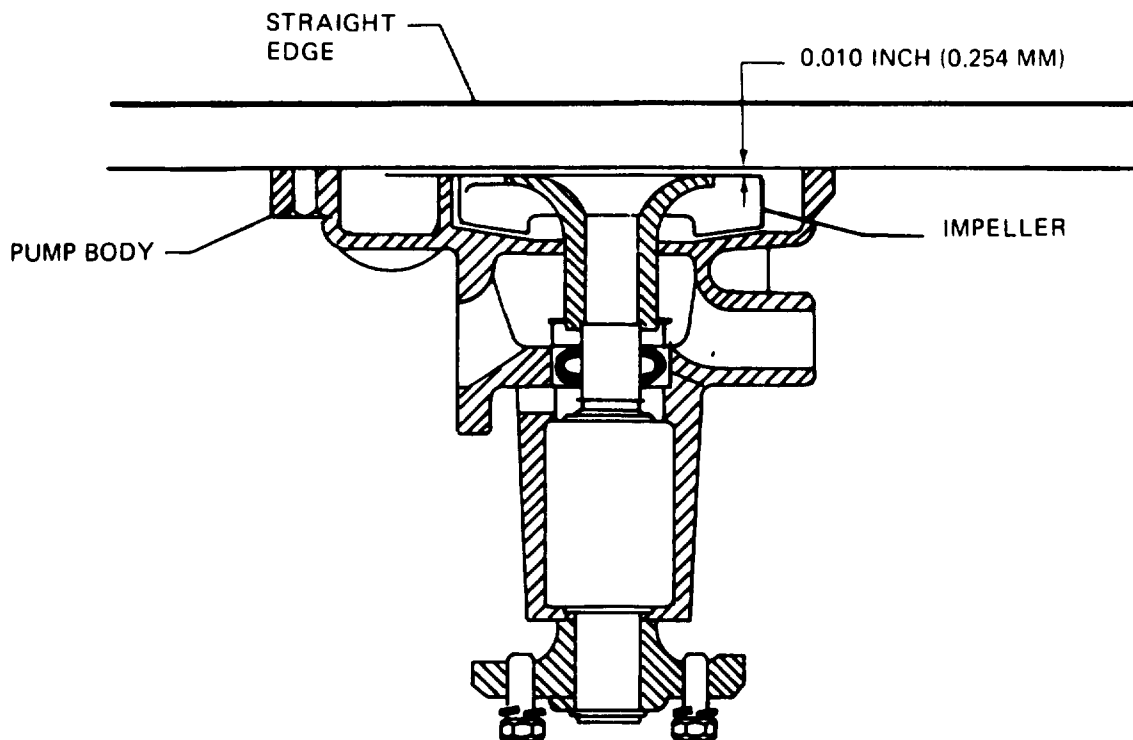

Figure 3-29. Checking Impeller to Cover Plate Clearance
(2) Press shaft, bearing and flinger assembly (9) into pump body and install retaining ring (2).
(3) Support pump on outer end of shaft and press impeller (10) onto shaft, bearing and flinger assembly to obtain 0.010 inch clearance between impeller and cover plate (figure 3-29).
(4) Install gasket (8) and cover plate (7) and secure with screws (3). Install bracket (6) with screw (4) and washer (5).
(5) Press pulley hub (1) onto shaft (9) until shaft is flush with front of pulley.
(6) Install water inlet housing (15) and new gasket (16) with screws (13) and lockwasher (14).